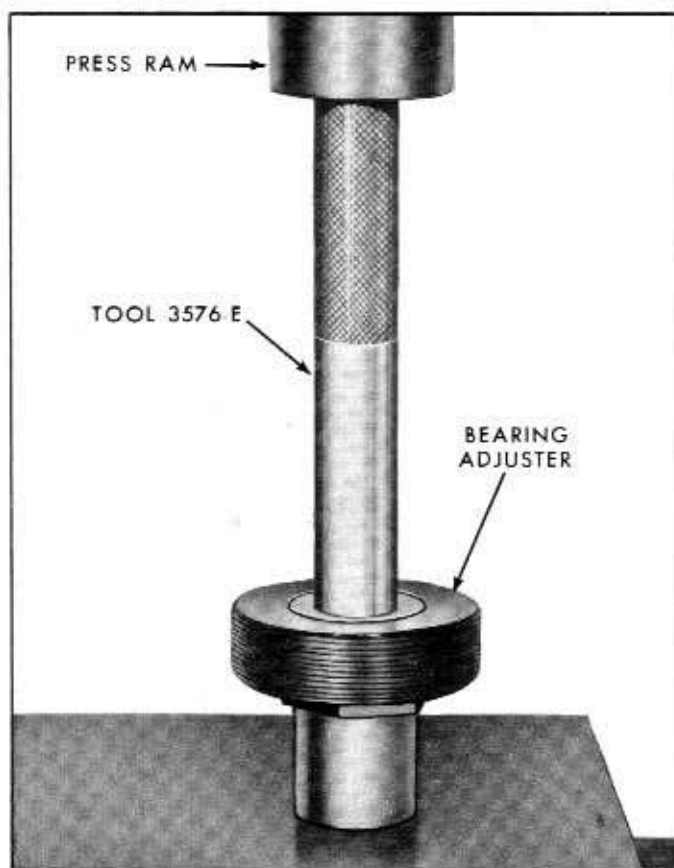

Fig. 5-13—Steering Shaft Upper Bearing Cup Installation—(60C-1210)
3. Press a new steering shaft upper bearing cup into the bearing adjuster. See figure 5-13.